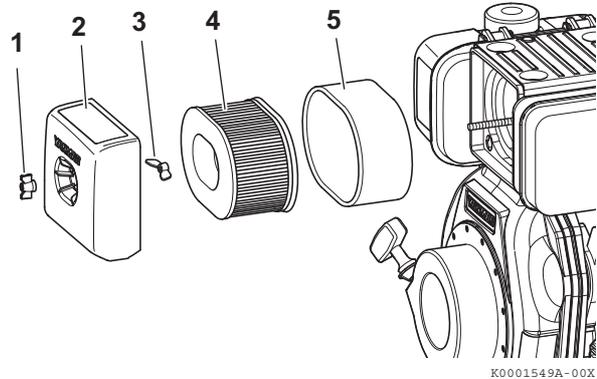

Figure 7
1. Remove the wing nut (**Figure 7, (1)**).
2. Remove the air cleaner cover (**Figure 7, (2)**).
3. Remove the wing nut (**Figure 7, (3)**).
4. Remove the air cleaner element (**Figure 7, (4)**) and outer foam element (**Figure 7, (5)**).
7. Clean the inside of the air cleaner cover (**Figure 7, (2)**).
8. Install the air cleaner element (**Figure 7, (4)**) into the air cleaner case. And check accurately that the air filter cartridge is properly fitted and aligned with its own seat of the air filter box.
9. Install the wing nut (**Figure 7, (3)**) and hand tighten. Overtightening the wing nut will damage the air cleaner assembly.
10. Slide the outer foam element (**Figure 7, (5)**) over the air cleaner element (**Figure 7, (4)**).
11. Install the air cleaner cover (**Figure 7, (2)**).
12. Install the wing nut (**Figure 7, (1)**) and hand tighten. Overtightening the wing nut will damage the air cleaner assembly.